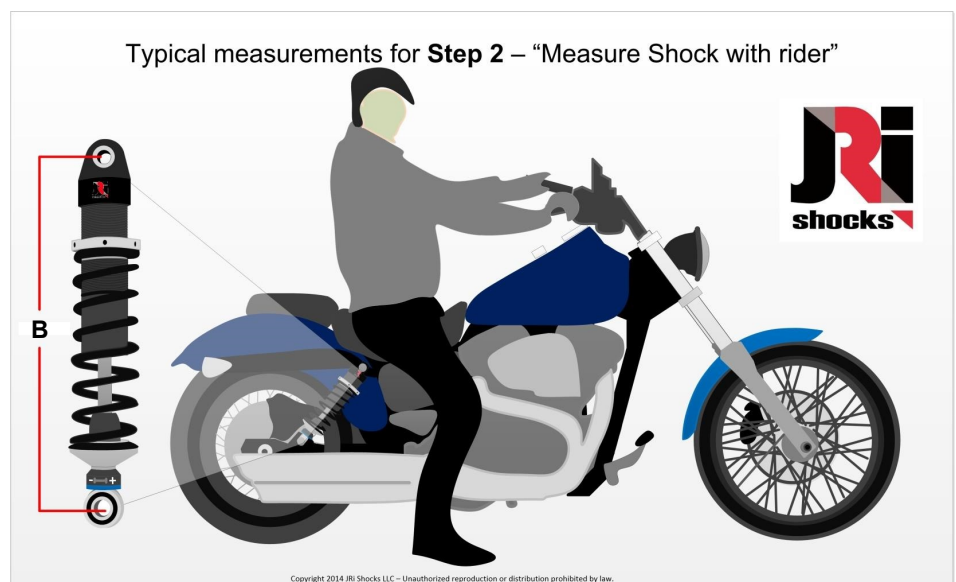

Figure 9 - Second measurement for setting sag
- 2) Record this measurement as "B" (**See Figure 9**)